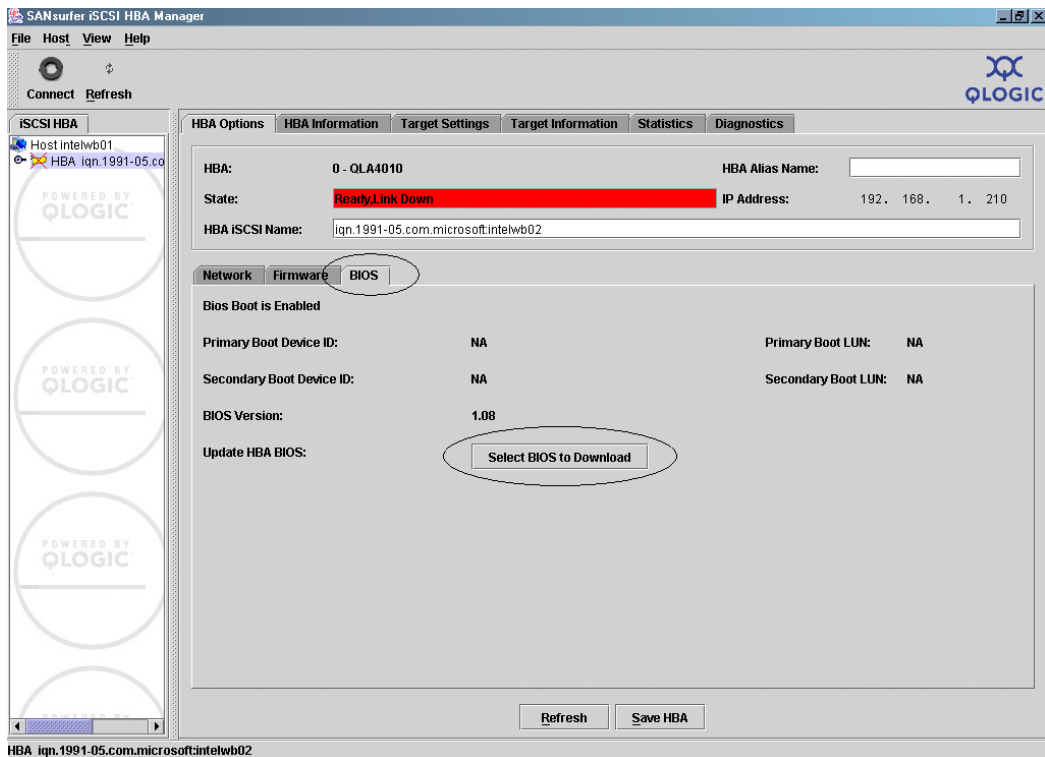

Figure 58 SANsurfer iSCSI HBA Manager, HBA Options, BIOS tab
- ◆ Boot BIOS for the iSCSI HBA can be loaded in a similar fashion. From the **SANsurfer iSCSI HBA Manager, HBA Option** dialog, click the **BIOS** tab, as shown in Figure 58.